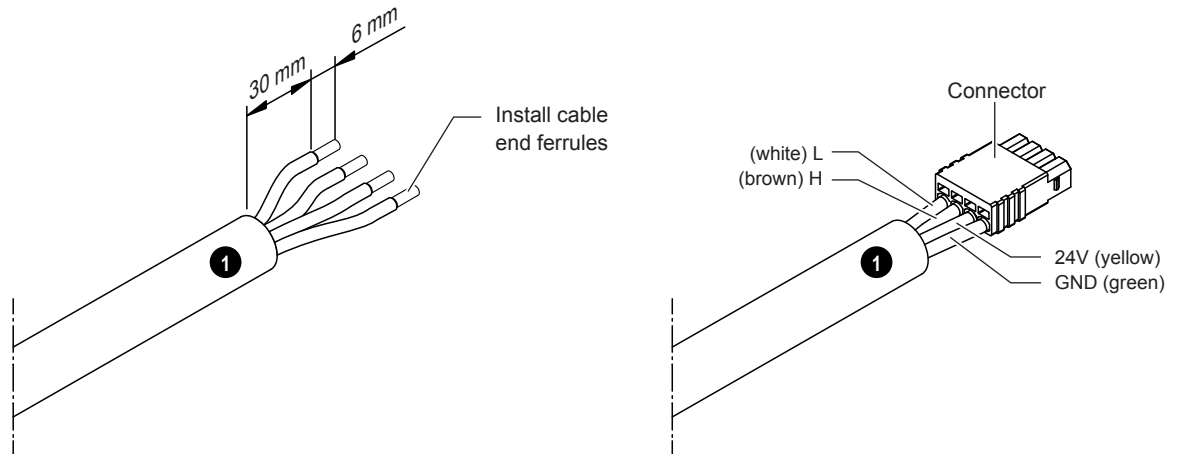
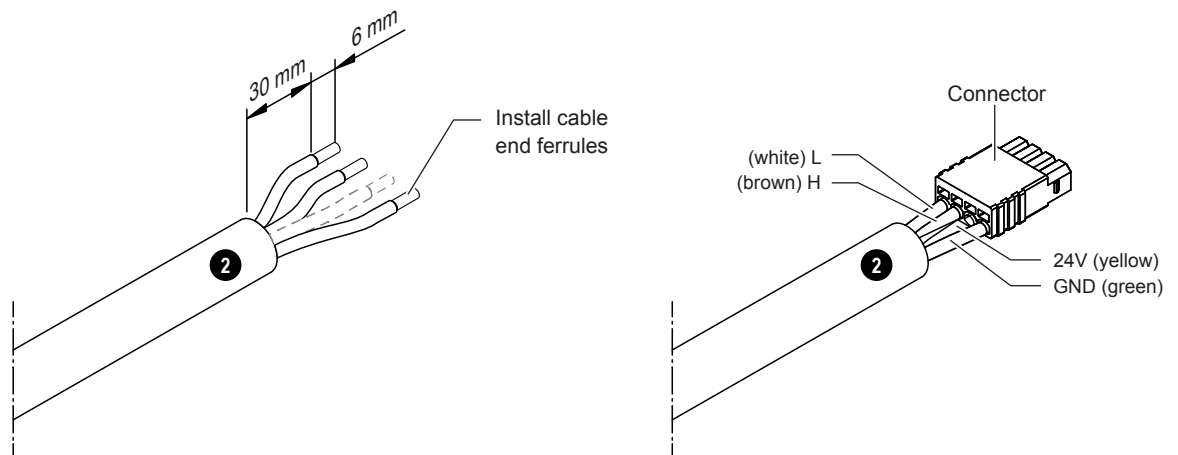

Fig. 12: Prepare CAN BUS cable for SPA Display connection
Fig. 13: Prepare CAN BUS cable for the connection between Condair Delta SPA Control Box and Condair Omega
3. Cut the CAN BUS cable(s) to length. Prepare the cable end(s) as shown in Fig. 13 (SPA Display connection) or Fig. 12 (connection cable Condair Delta SPA Control Box to Condair Omega), then connect the prepared cable ends to the the CAN BUS connectors.